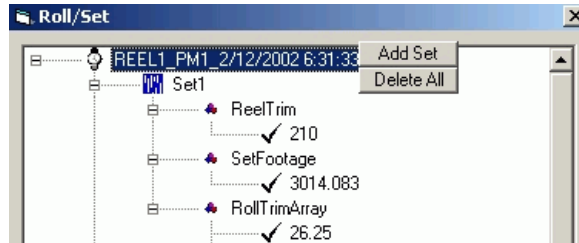
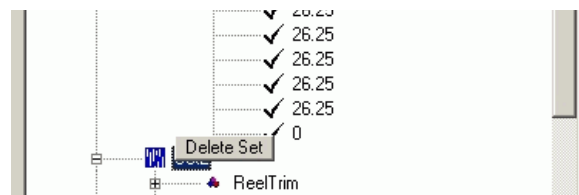

Figure 44. Adding a Set to a Reel
Figure 45. Deleting an Individual Set
- add sets to a reel. To do this, select the REEL object, right-click and choose **Add Set** from the context menu, Figure 44.
- delete a set. To delete an individual set, select the set, right-click and choose **Delete Set** from the context menu, Figure 45. To delete all the sets for a reel, select the reel, right-click and choose **Delete All** from the context menu, Figure 44.